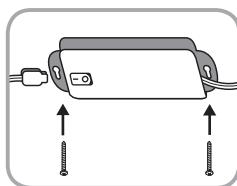

FIGURE 8
- Pre-drill holes in the mounting surface with a 1/16in. (1.5mm) drill bit for soft woods and a 3/32in. (2.4mm) drill bit for hardwoods. Drive the 5/8in. wood screws provided in the mounting hardware into the mounting surface until approximately 1/16in. (1.5mm) of space remains under the head of the screw (see Figure 8).
- Plug the 3-pin connector of the power supply cord into the corresponding connection point on the LED Driver (see Figure 8).